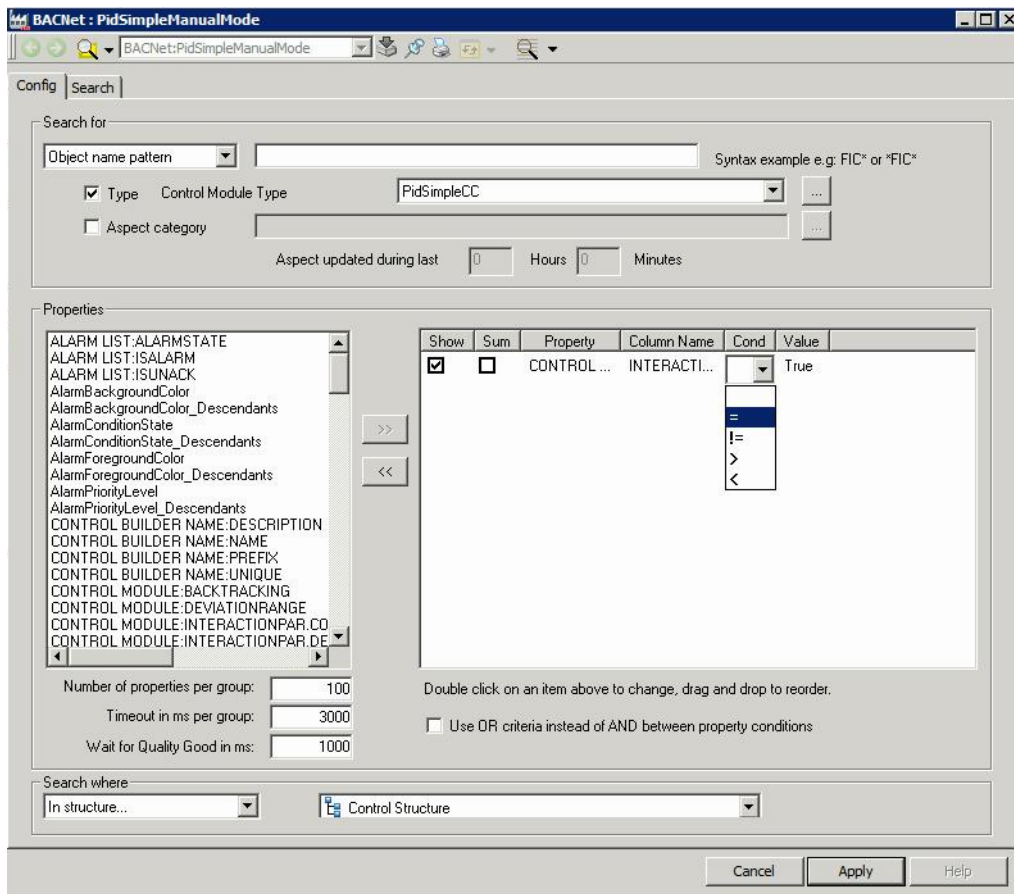

Figure 16. Narrow down the PidSimpleReal in Manual search
8. After the test search go back to the Config tab and specify the search to only present PidSimpleReal objects in manual mode which are present in the control structure. Double-click in the **Cond** field as shown in Figure 16 and select =, also set true in the Value field. Specify the Control Structure in the **Search where** configuration area.